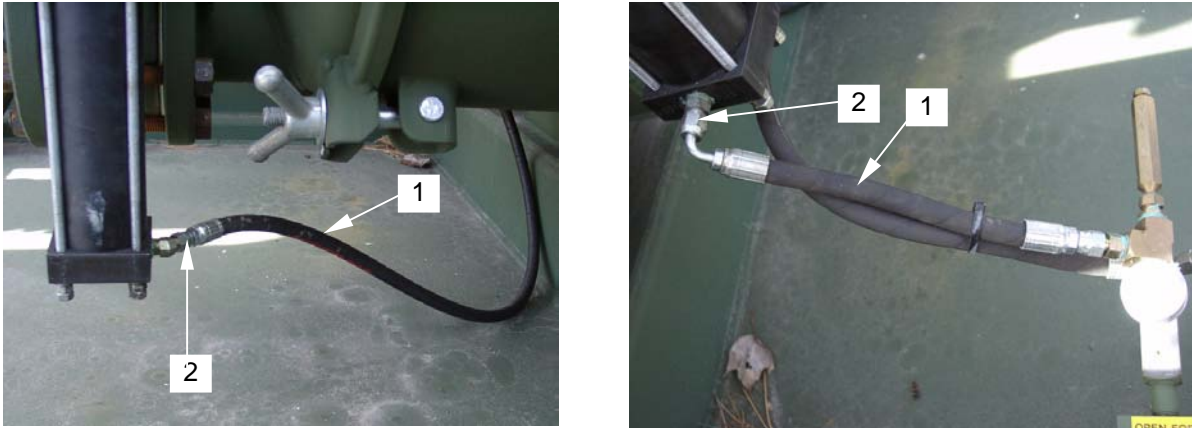

Figure 6. Re-connecting Hoses to Piston Valves
12. When hydraulic fluid appears at the end of the hoses (**figure 6, item 1**), stop pumping and connect the hoses to the piston valve fittings (**figure 6, item 2**). Wipe up any fluid that may have spilled.